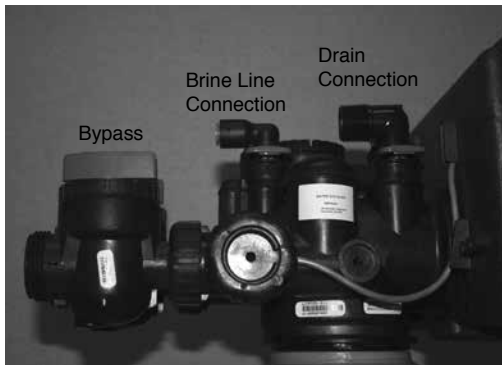

Figure 6a
- The drain connection may be made using a 3/4" or a 1" female adapter (see figure 6a). If soldering, joints near the drain must be done prior to connecting the drain line flow control
- Connect the brine line found in the brine tank to the brine connection on the control valve. The control valve has a standard refill elbow which a 3/8" flexible tube can be connected, see figure 6a, page 6. (An optional elbow can be ordered which accommodates a 1/2" flexible tube for a high regenerant draw rate situation). Both elbows use the same refill flow control and retainer. Do not connect the other end of the brine line to the safety brine valve in the brine tank at this time. Make sure the floor is clean beneath the salt tank and that it is level and smooth.